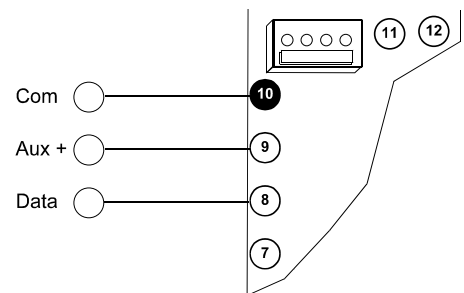

Figure 2: Wiring the D208 to the D2212
2. Wire the D208 to the D2212 as shown in *Figure 2*.